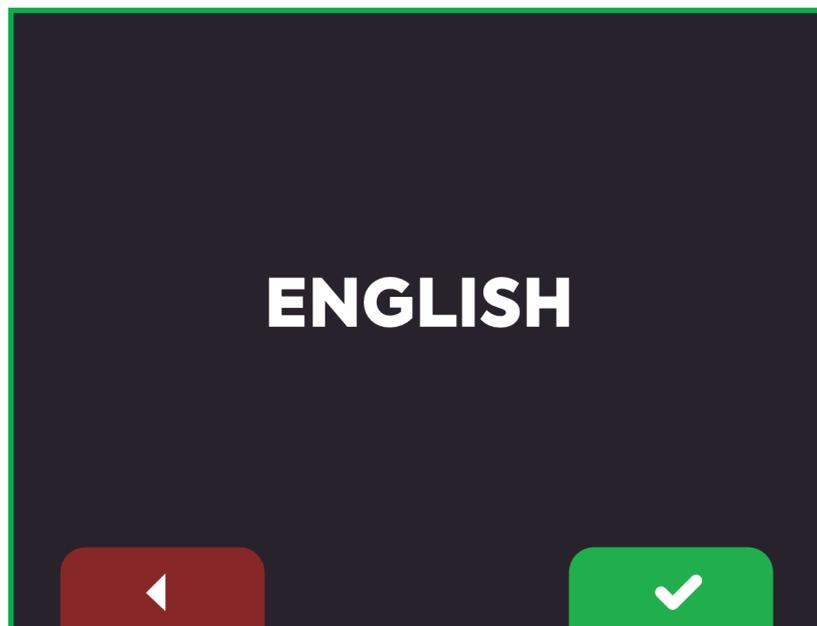

FIGURE 10
3. Select the required language. (Figure 10)